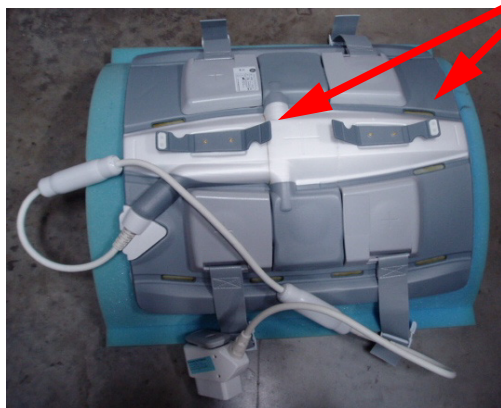

Figure 3-1 Anterior component with the tethers open
- The tethers on the top of the anterior component are to be used to secure the cable to the coil when moving the anterior coil. See Figures 3-1 and 3-2.